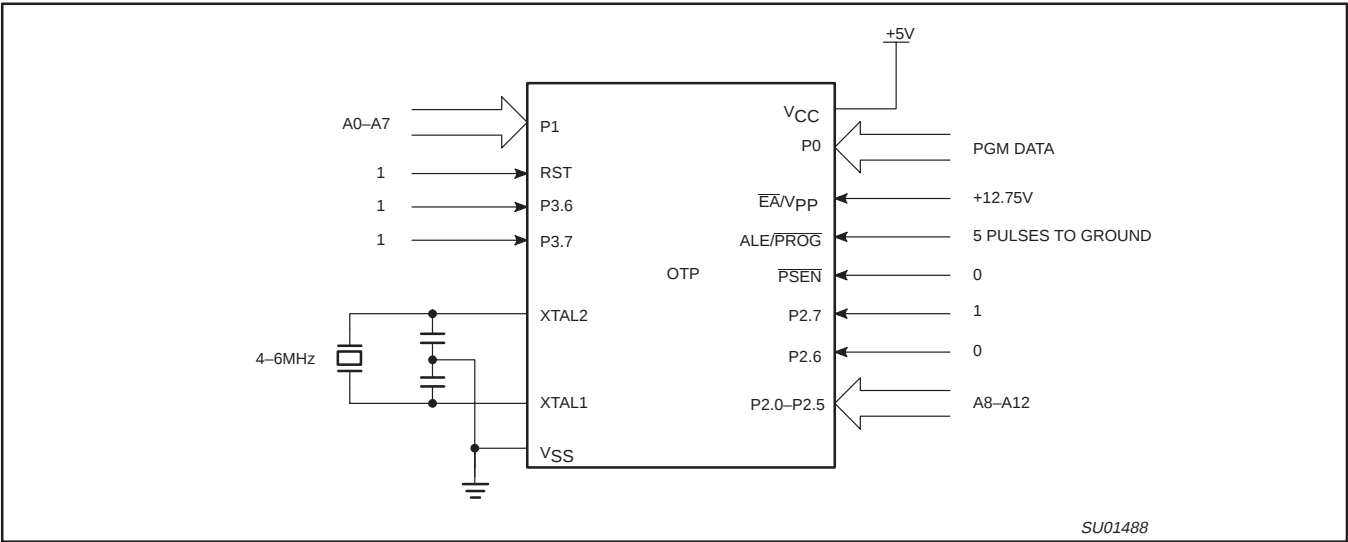
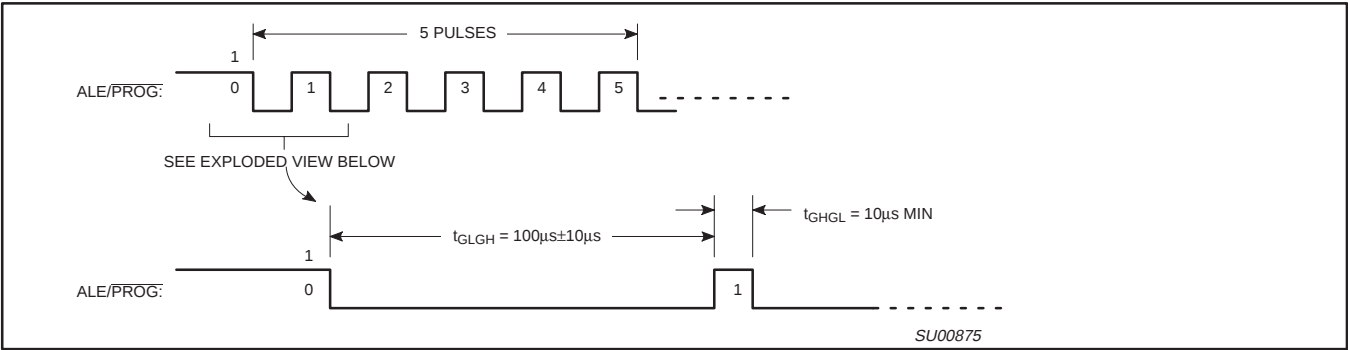
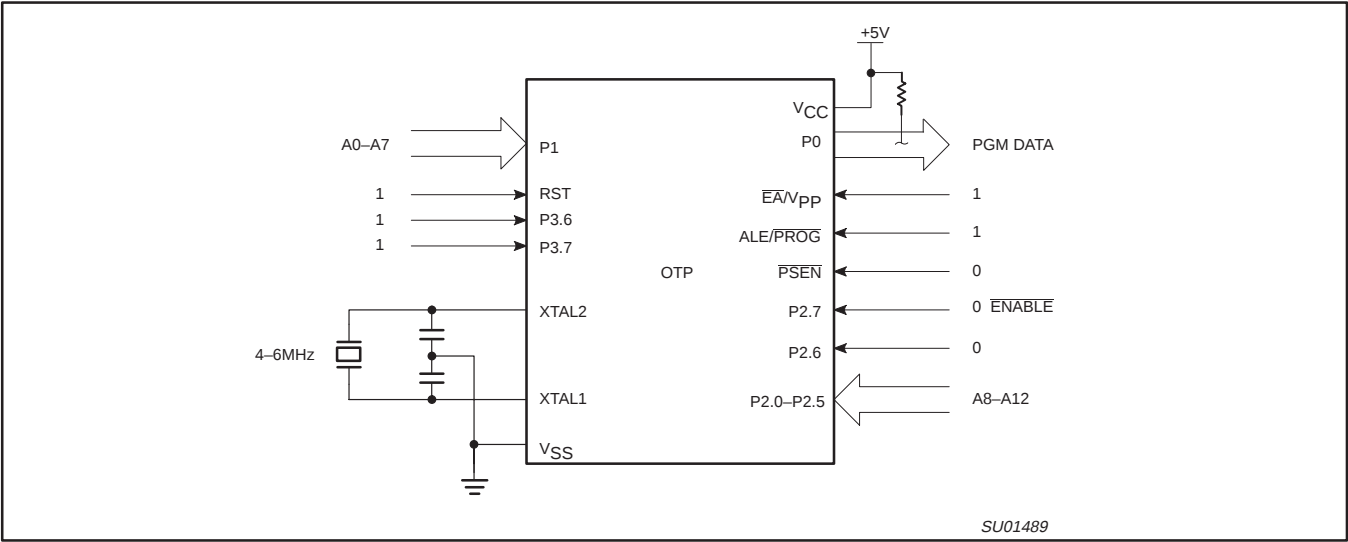

Figure 40. Programming Configuration
Figure 41. PROG Waveform
Figure 42. Program Verification
Table 9 shows the logic levels for reading the signature byte, and for programming the program memory, the encryption table, and the security bits. The circuit configuration and waveforms for quick-pulse programming are shown in Figures 40 and 41. Figure 42 shows the circuit configuration for normal program memory verification.
The setup for microcontroller quick-pulse programming is shown in Figure 40. Note that the device is running with a 4 to 6 MHz oscillator. The reason the oscillator needs to be running is that the device is executing internal address and program data transfers.
The address of the EPROM location to be programmed is applied to ports 1 and 2, as shown in Figure 40. The code byte to be programmed into that location is applied to port 0. RST, $\overline{PSEN}$ and pins of ports 2 and 3 specified in Table 9 are held at the 'Program Code Data' levels indicated in Table 9. The ALE/ $\overline{PROG}$ is pulsed low 5 times as shown in Figure 41.
If security bits 2 and 3 have not been programmed, the on-chip program memory can be read out for program verification. The address of the program memory locations to be read is applied to ports 1 and 2 as shown in Figure 42. The other pins are held at the 'Verify Code Data' levels indicated in Table 9. The contents of the address location will be emitted on port 0. External pull-ups are required on port 0 for this operation.
* FOR PROGRAMMING CONFIGURATION SEE FIGURE 40.
FOR VERIFICATION CONDITIONS SEE FIGURE 42.